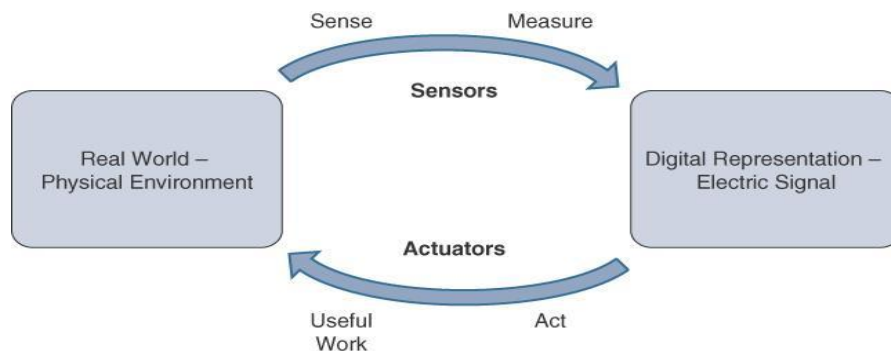

Figure 2.2 : How Sensors and Actuators Interact with the Physical World
- Figure 2.2 demonstrates the symmetry and complementary nature of these two types of devices.